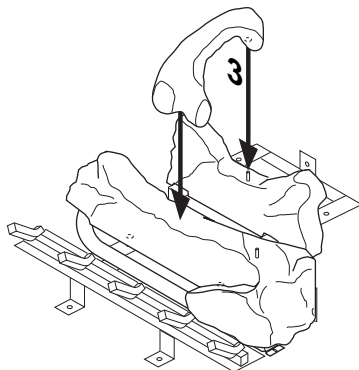

Figure 42 - Installing Log No. 3
3. Place log #3 (crossover log) onto rear and front logs. Make sure it is seated properly on smooth surface of front log and pin on back log as shown in Figure 42, page 25.